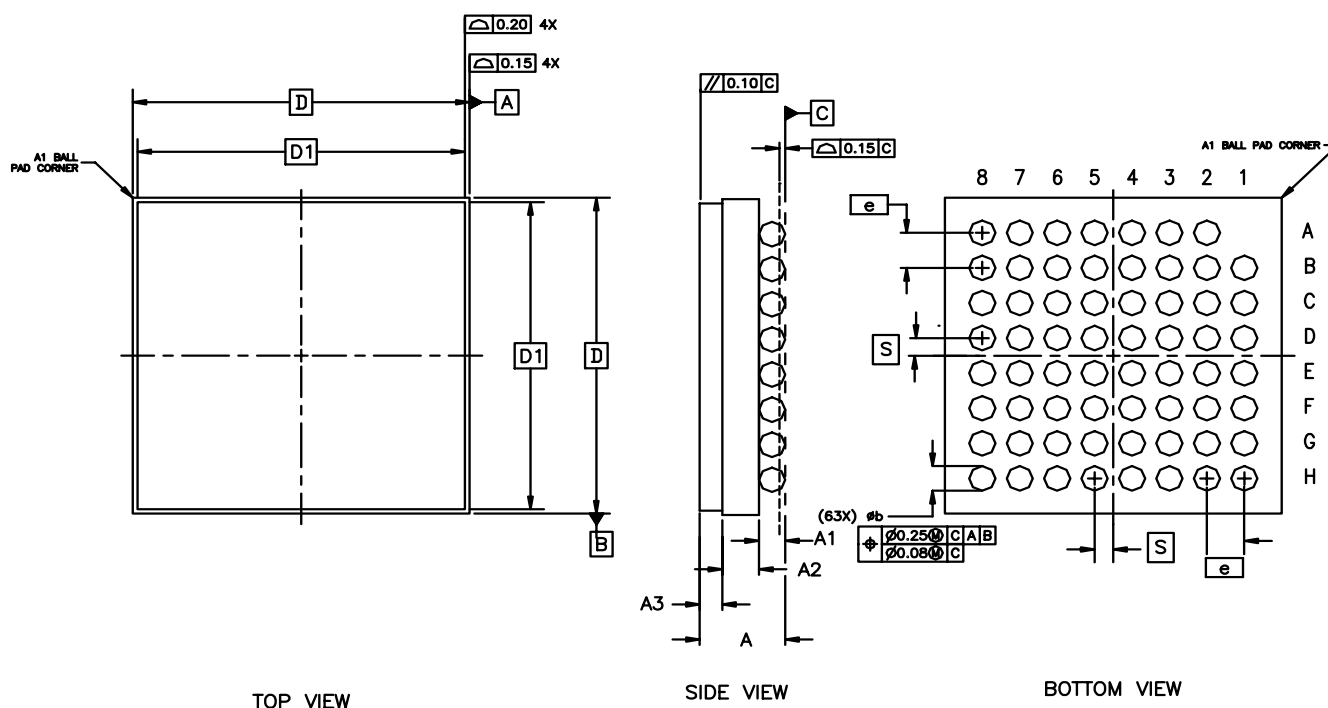

Figure 12. 63-Ball Ceramic Ball Grid Array (CBGA)
Figure 12 illustrates the package details for the Si5321. Table 11 lists the values for the dimensions shown in the illustration.
- Updated Figure 12, “63-Ball Ceramic Ball Grid Array (CBGA),” on page 31.